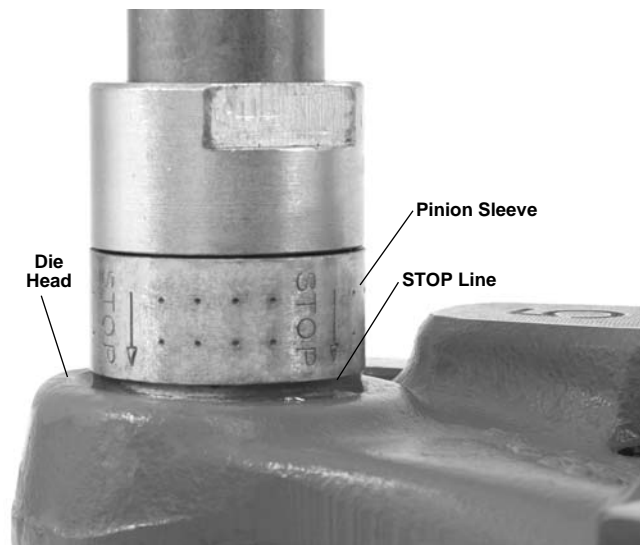

Figure 8 – Thread Complete – Top of Die Head Flush With STOP Line
- Continue ratcheting until the top edge of the die head is flush with the red stop line on the pinion sleeve (*see Figure 8*).
12. Continue threading until the edge of the die head is flush with the red stop line on the pinion sleeve (Figure 8). Release foot switch. If threading is continued past the red stop line, the pinion shaft will disengage to prevent jamming. Do not continue to operate with the pinion shaft disengaged – over time this can cause tool damage.